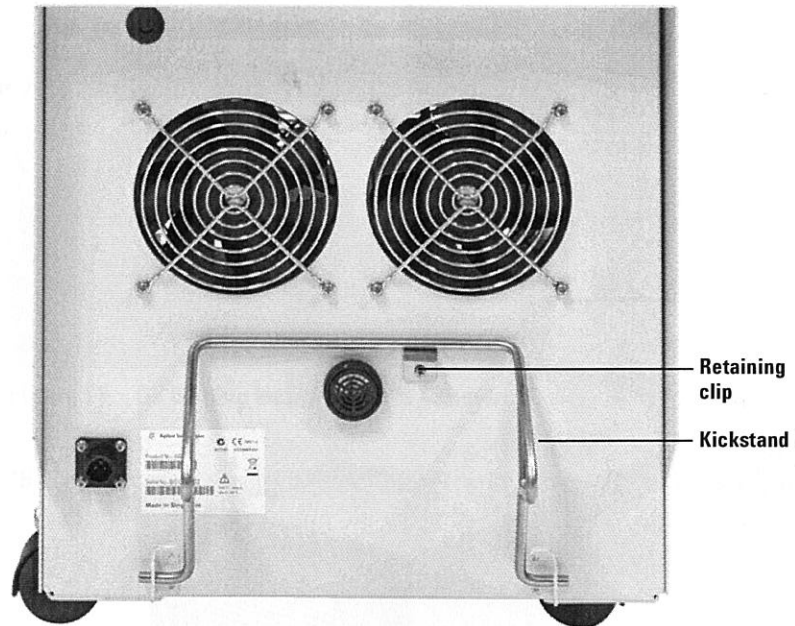

Figure 17 Releasing the kickstand
- 3 Release the kickstand from the retaining clip (Figure 17).